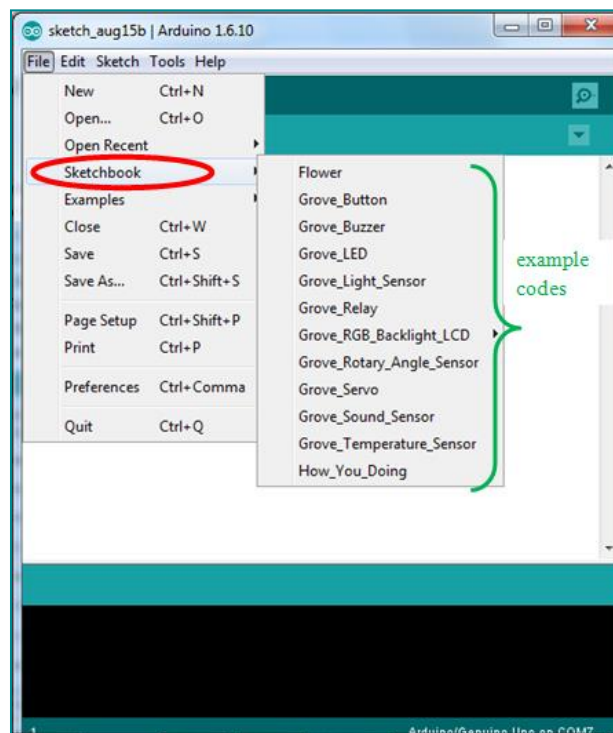

Figure 3-4. Access the example code for the components in the Grove Base Shield.
5. Now the sketchbook is ready to use. To access the examples, click **File** on the menu bar and place the mouse cursor over the **Sketchbook** menu option to see all the available examples (see Figure 3-4).